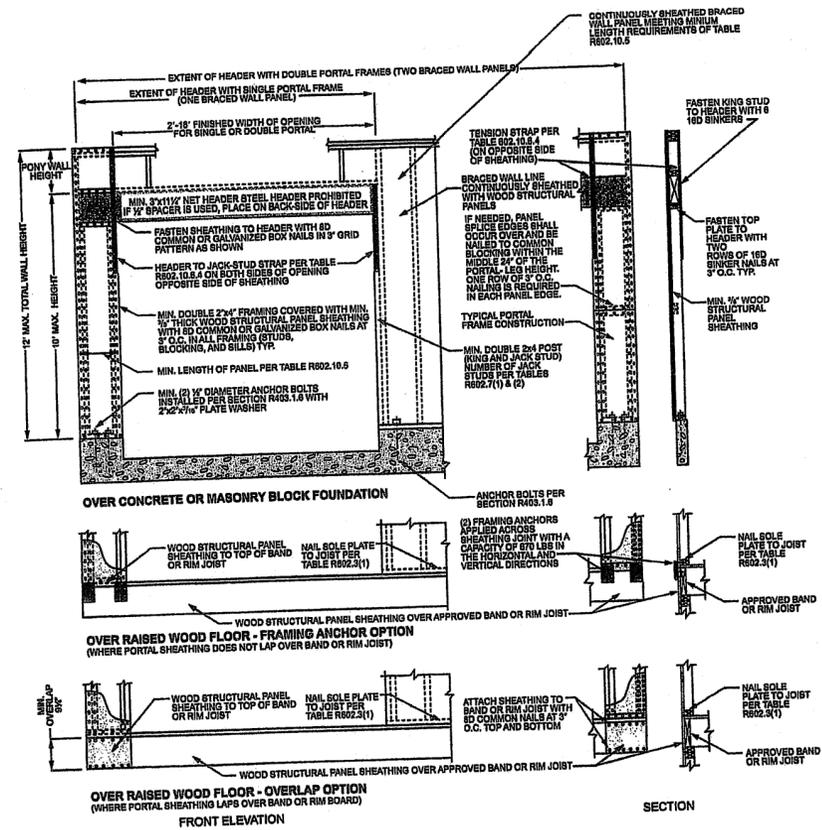

FIGURE R602.10.6.4 METHOD CS-PF—CONTINUOUSLY SHEATHED PORTAL FRAME PANEL CONSTRUCTION
d. Maximum header height for PFH is 10 feet in accordance with Figure R602.10.6.3, but wall height shall be permitted to be increased to 12 feet with pony wall.
e. Maximum header height for CS-PF is 10 feet in accordance with Figure R602.10.6.4, but wall height shall be permitted to be increased to 12 feet with pony wall.